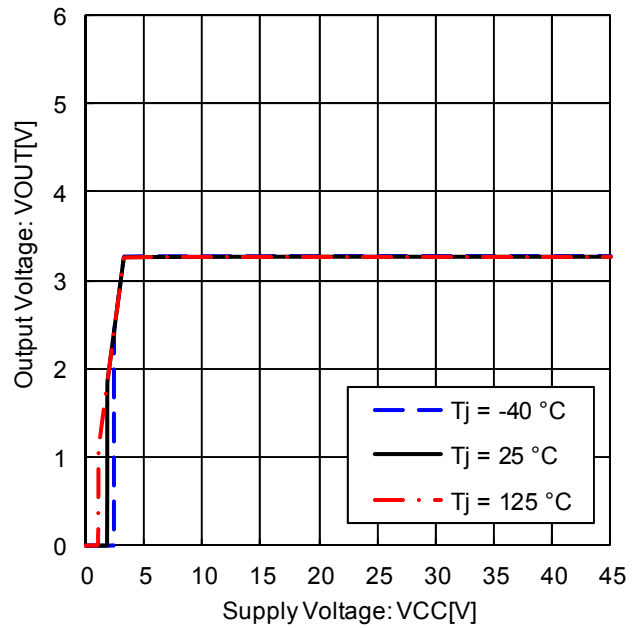

Figure 6. Output Voltage vs. Power Supply Voltage (IOUT = 0 mA)
*magnified Figure 6. at low supply voltage